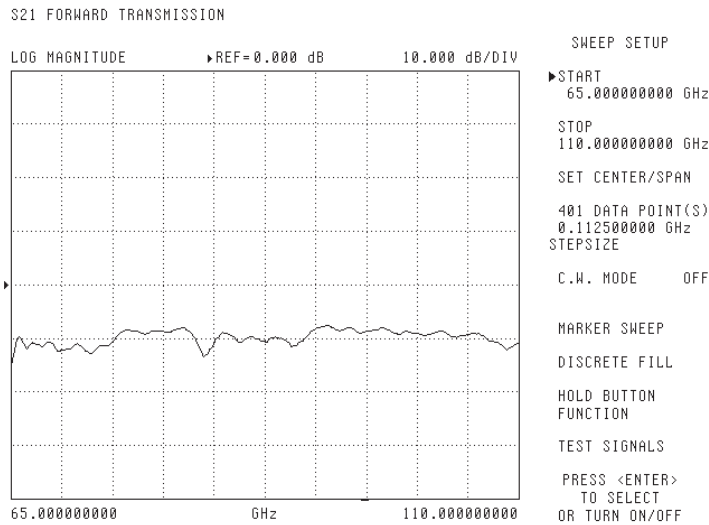

Figure 14-4. Normal S21 Display of MM Module Uncalibrated Transmission
- Step 7.** Ensure the display is similar to Figure 14-4 (next page).
Step 10. Ensure the display resembles Figure 14-4.